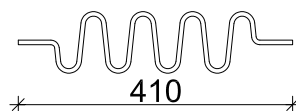

Figure 5.16
- Check the length of the energy absorber and tighten the cable until the absorber lengthens by 5-10 mm (equivalent to a traction force of approximately 100/150 daN) (Cod. 000033) (see **Figure 5.16**).